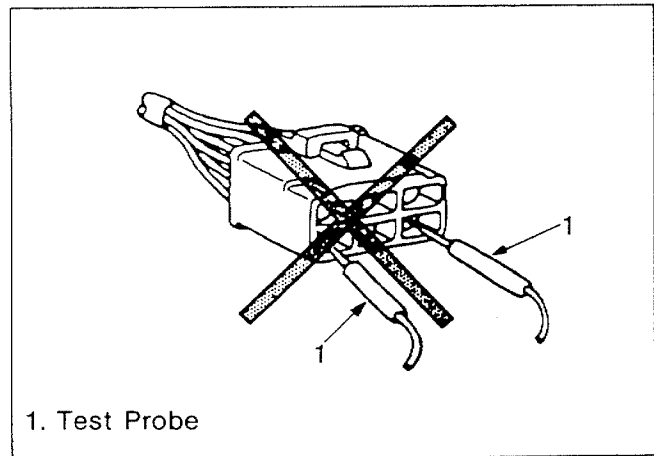

Figure 10. Connector Inspection
CAUTION: Never insert the circuit tester test probes (1) into the connector open side to test the continuity (figure 10). Broken or open connector terminals will result.